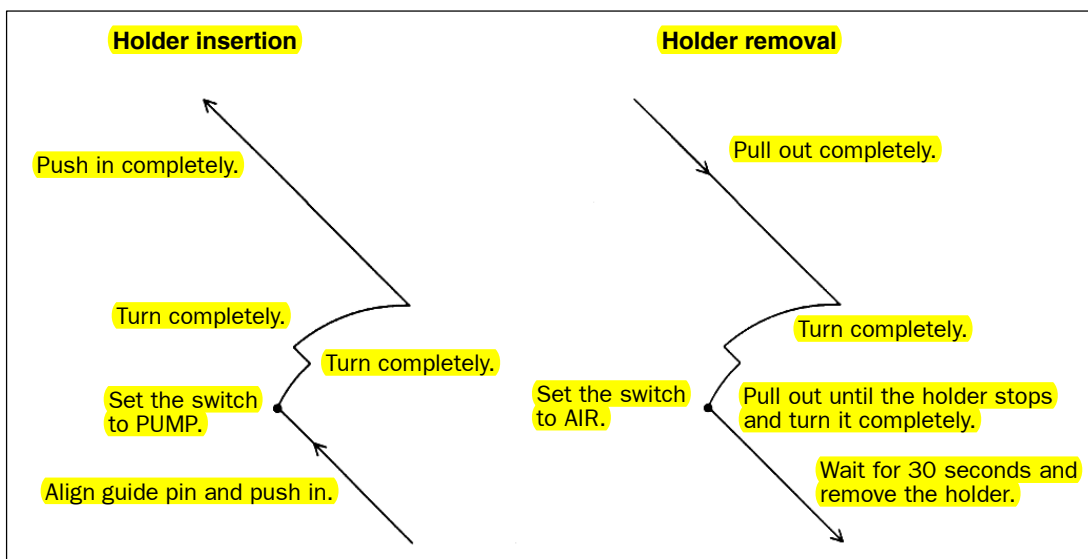

Fig. 5.8 Holder insertion and removal
- d. Push it further into the goniometer until it stops ( Fig. 5.8).